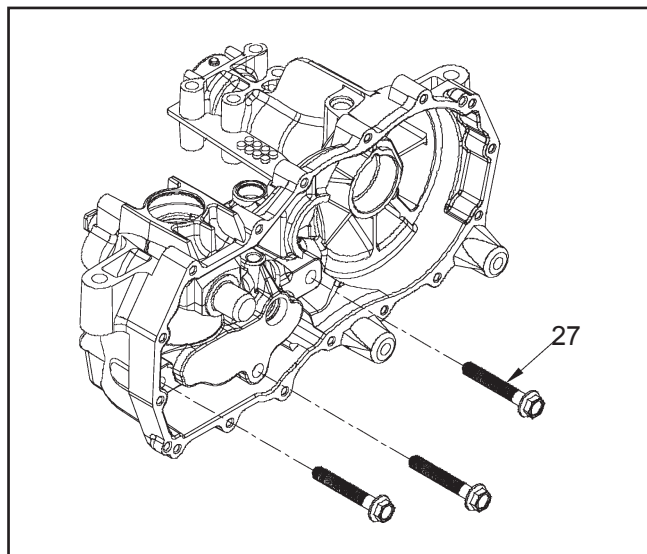

Figure 14.
12. **(See Figure 14, 15, and 16)** Remove the center section mounting screws (27). NOTE: The center section is under motor block piston spring pressure. These screws are factory installed to 700 lb-in (80 Nm) and use an anaerobic thread adhesive. A breaker bar will be required at this step. Clean the internal threads of the mounting holes with compressed air.
9. **(See Figure 14)** After applying thread adhesive, insert the center section mounting screws (27) while holding downward pressure on the center section assembly (20).
10. Tighten the center section mounting screws (27) to the proper torque. Refer to Table 2 page 36. NOTE: The center section must be fully seated into the pilot bore before the screws are tightened. The center section will not self locate.